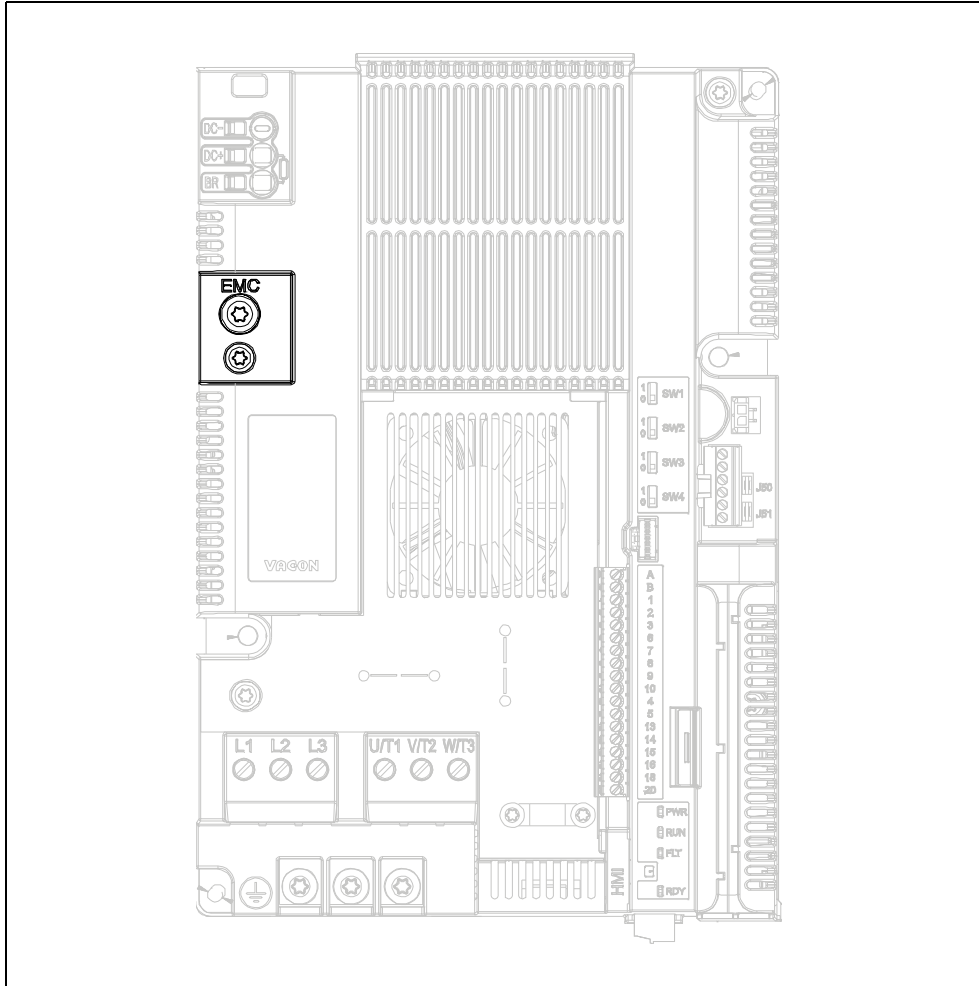

Figure 31. Changing the EMC class in the MU3 control unit.
**1** Remove the EMC screw as shown in the Figure 31.